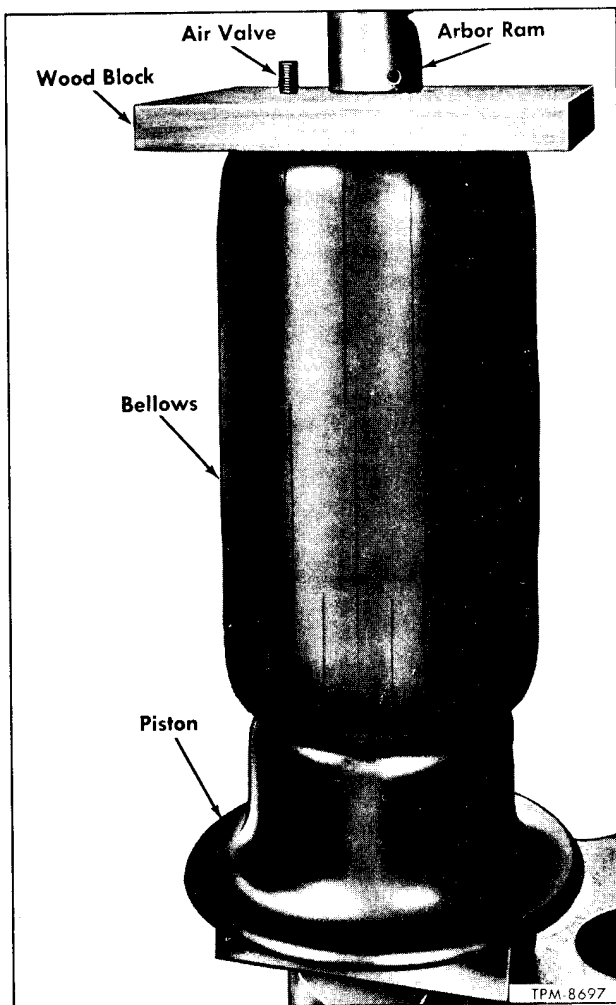

Figure 21—Forming Bellows Loop Over Piston Using Arbor Press
7. Install bellows assembly in arbor press (fig. 21) with two studs in lower retainer astride a block so that assembly will rest against retainer and piston.
8. Install locally made block over top of bellows assembly with upper retainer studs through holes in block (fig. 21).